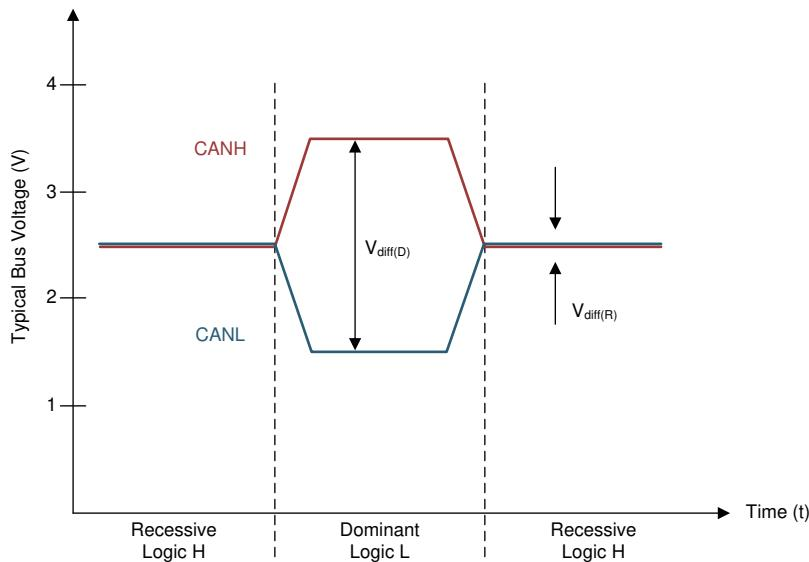
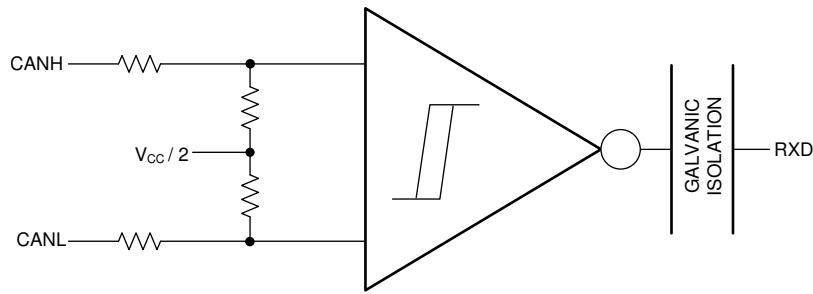

Figure 8-1. Bus States (Physical Bit Representation)
Figure 8-2. Simplified Recessive Common Mode Bias and Receiver
The CAN bus has two states during operation: *dominant* and *recessive*. A dominant bus state, equivalent to logic low, is when the bus is driven differentially by a driver. A recessive bus state is when the bus is biased to a common mode of $V_{CC} / 2$ through the high-resistance internal input resistors of the receiver, equivalent to a logic high. The host microprocessor of the CAN node uses the TXD pin to drive the bus and receives data from the bus on the RXD pin. See Figure 8-1 and Figure 8-2.
(1) H = high level, L = low level, Z = common mode (recessive) bias to $V_{CC} / 2$. See Figure 8-1 and Figure 8-2 for bus state and common mode bias information.